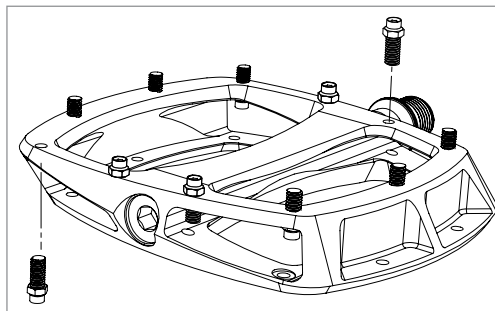

Figure 1
1. To optimize the concave portion, insert the remaining seven pins from the bottom exposing the threaded portion of the pin as traction features (Fig. 1).